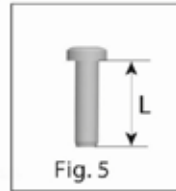

Fig. 5
- 4 Install the new STEPPER MOTOR pressure regulator assembly, as shown in Fig. 3 and Fig. 4. Use the supplied screws (F), M4 x 0.7 threaded, length of thread $L=(16\text{ mm} + 0 - 0.5\text{ mm})$, steel material, resistance class 8.8 (see Fig. 5).